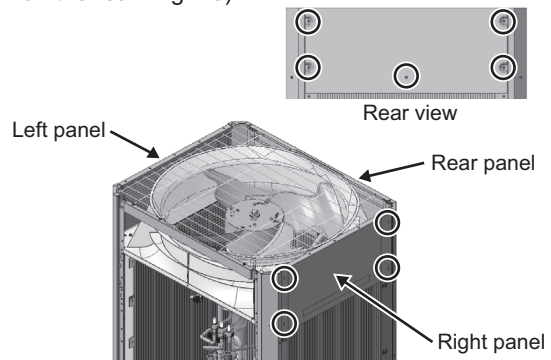

Fig. 28
- (5) Remove the top panel except the front panel. (Four screws on the left and right each, and five screws on the rear: Fig. 28)